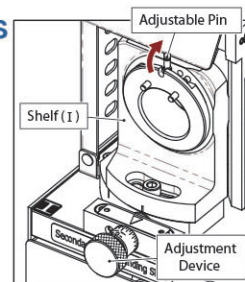

Fig. 5-1
1. Secondary Relief Grinding Shelf (I) (Fig. 5-1)
- ① Move the adjustable pin on the Shelf (I) from the bottom to top.
- ② Adjust the cutting face adjustment device to "0", after finishing the whole sharpening procedure, then adjust this device according to your needs.